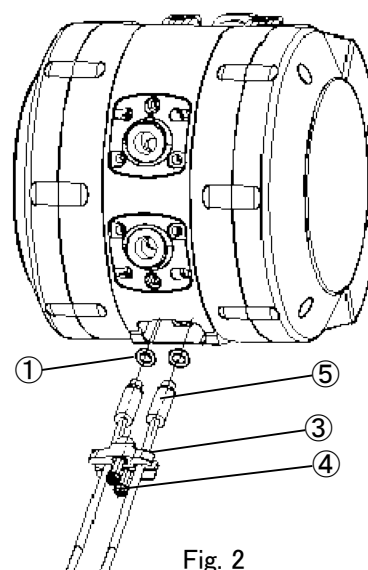

Fig. 2
2. Mount the O-ring again to the part from which it is removed, and insert two leakage sensors there. Put the leakage sensor cover back to the part with the round head Philips screws (tightening torque: **0.125N·m**) (Fig. 2).